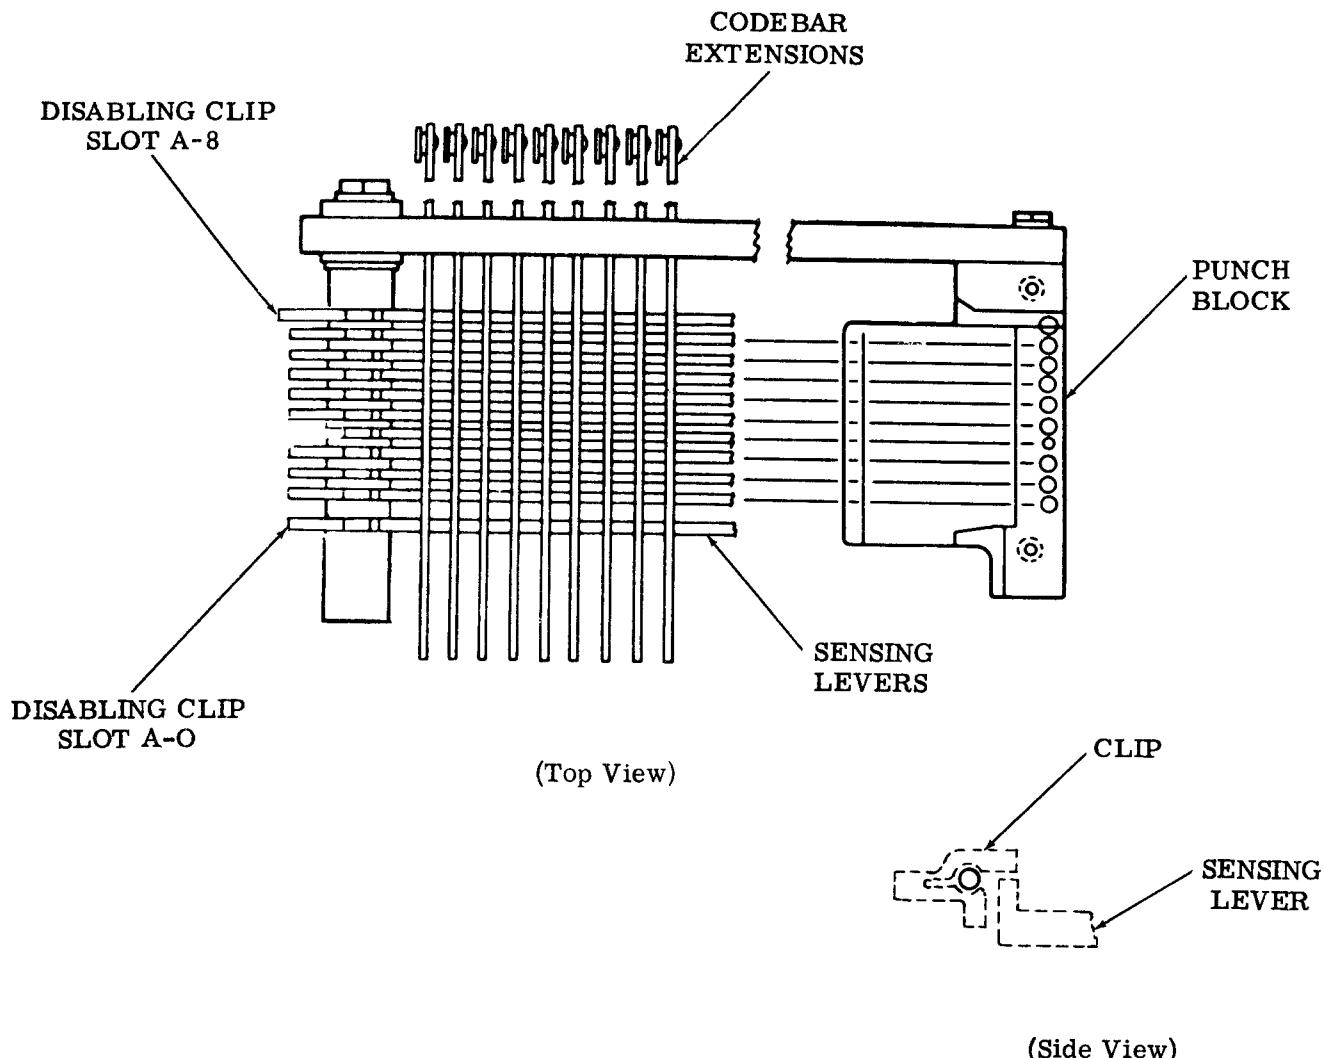

Figure 17 - Tape Punch Disabling Clips
**6.01** The 3300 Series Coded Sets are shipped with the tape punch having two disabling clips installed in slots A-0 and A-8. If manual operation of the tape punch is desired, retain the two clips; if automatic operation is desired, remove the two clips. See Figure 17. The 33